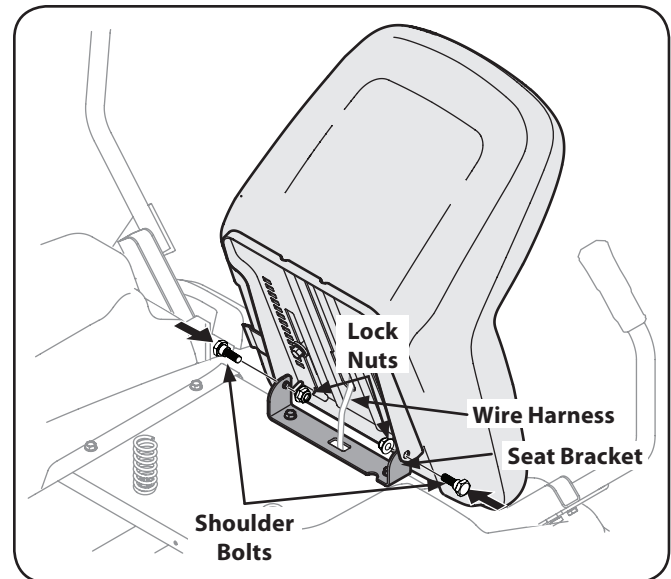

Figure 3-5
3. Rotate the seat into position and secure the seat into place with the previously removed shoulder bolts and lock nuts. Be careful not to crimp or damage the wire harness while installing the seat. See Fig. 3-5.